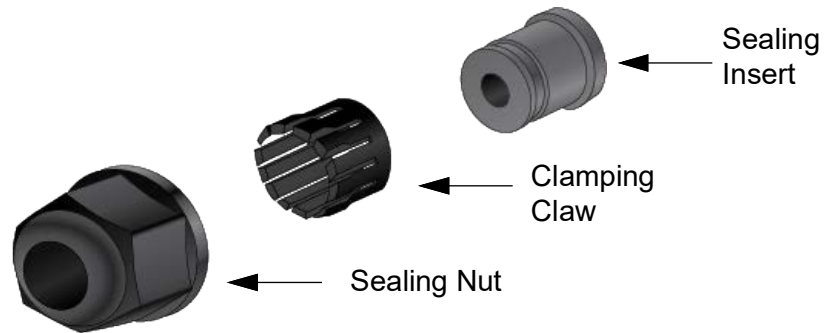

Figure 12. Sealing Nut, Clamping Claw, and Sealing Insert
3. Disassemble the sealing nut, clamping claw, and sealing insert. Refer to Figure 12.